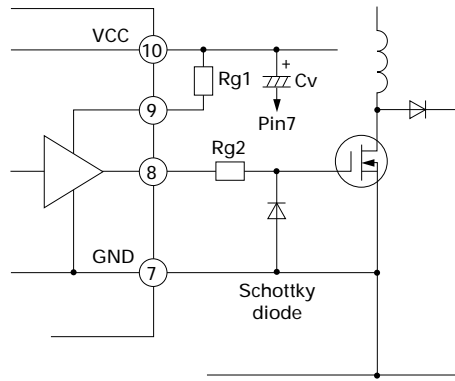

Fig. 8 Output circuit
As Fig. 8 shows, pin 9 is configured as the high power terminal (VC), independent of the IC power terminal (VCC). This pin allows an independent drive resistance when the power MOSFET is ON and OFF. If the drive resistances in the ON and OFF states are Rg (on) and Rg (off), the following formulas can be used to determine the total gate resistance Rg: